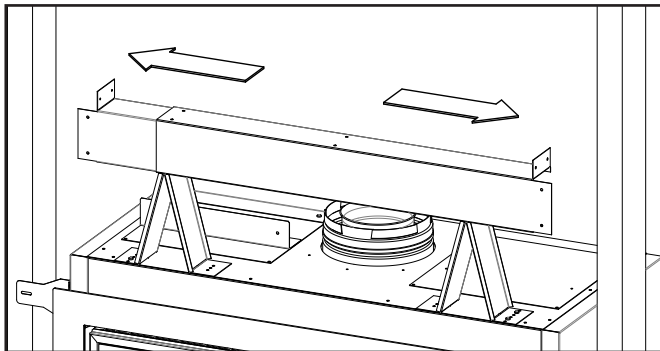

Figure 15: Steel Stud Placement
- Place the steel stud onto the top standoffs and slide outwards until both ends make contact with the framing studs (see Figure 15).